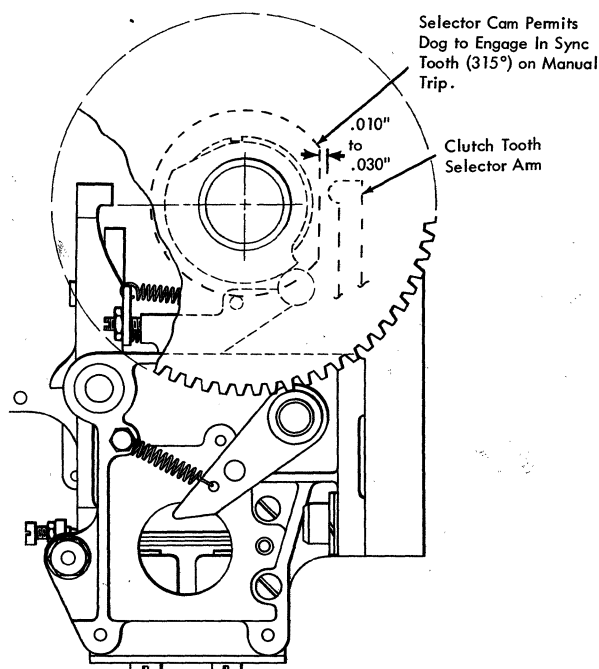

Figure 3-20. Punch Clutch Position
1. Set clutch so latch arm is on horizontal centerline of picker camshaft within .005" (Figure 3-20).
9. This adjustment is only for machines with a clutch tooth selector arm (Figure 3-20).